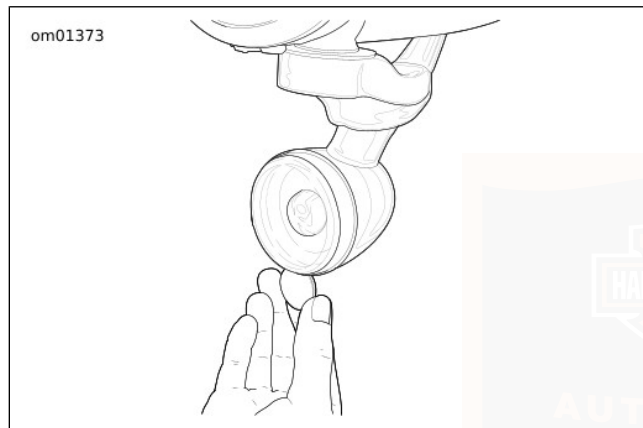

Figure 85. Lens Cap Notch
1. See Figure 85. Insert coin in notch. Carefully twist until the lens cap pops out of the lamp housing.